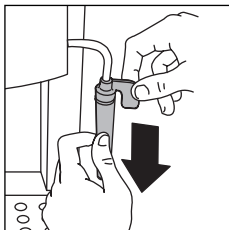

fig. 26
3. Remove the nozzle from the steam tube by pulling it downwards (fig. 26). **Note: Metal of steam pipe may be hot!!!**